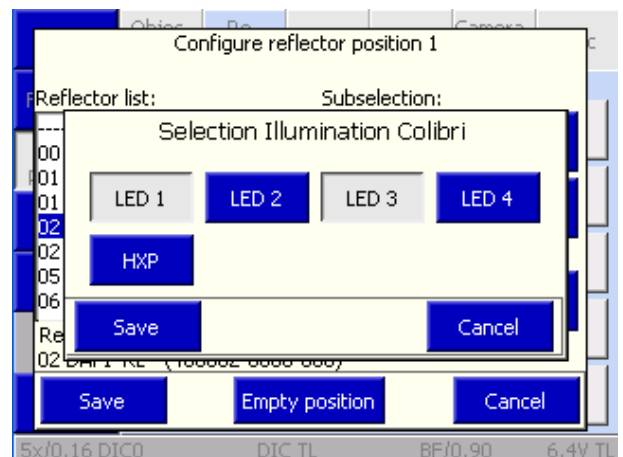

Fig. 4-64 Selecting Colibri / HXP 120 illumination
- From the following pop-up menu (Fig. 4-64), pick one or several LEDs matching the reflector position selected.